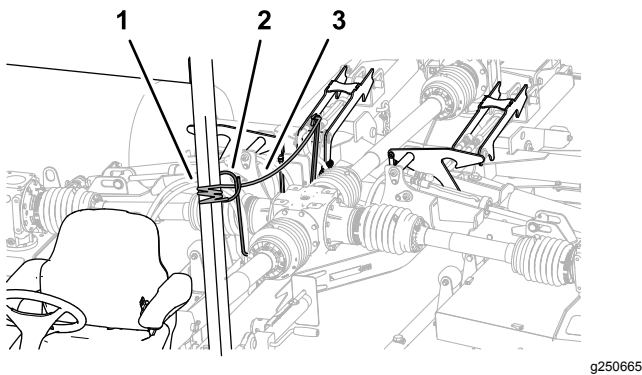

Figure 34
1. Route the deck-lock rope from the hose guide toward the operator's seat (Figure 34).
2. Tie the rope to the fixed-chassis component of the tow vehicle such as the ROPS tube (Figure 34).